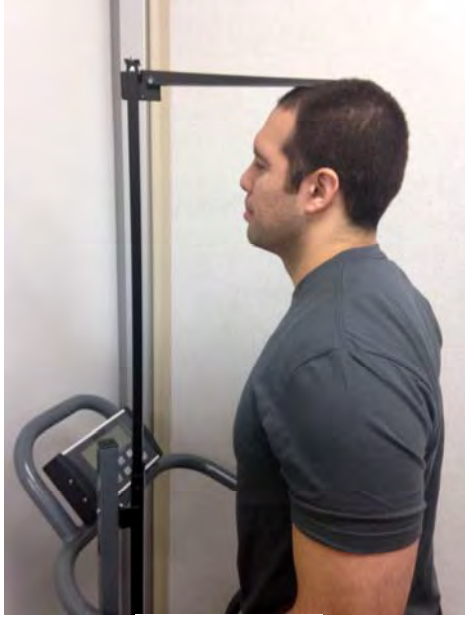

Figure 11
4. Push the headpiece down until it rests on the patient's head. Be sure the headpiece is level and not at an angle. (See Figure 11)